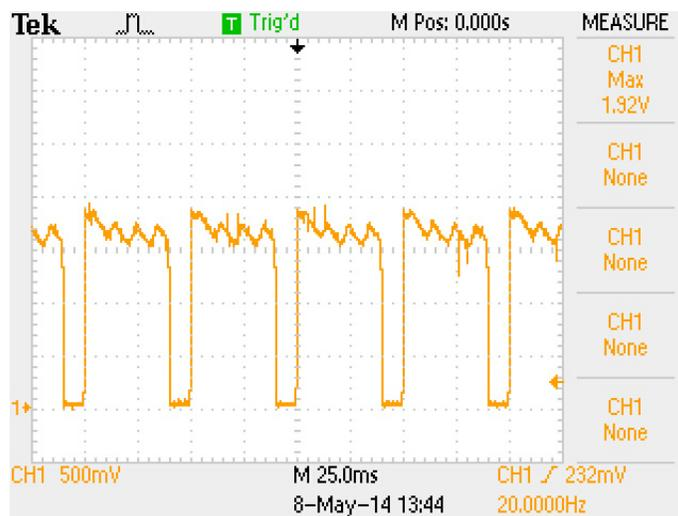

Figure 1: Voltage at IO representing the output current waveform: 220V / 80% / 20Hz
In order to measure the peak current of modulated outputs, an oscilloscope was used to measure the voltage drop across a resistor in series with the load. The existing EFU circuitry was used for this purpose and the voltage measurements were taken at pin 4 of the PIC microprocessor 16F877A (signal labelled IO). This signal is derived from a differential amplifier monitoring the voltage drop across a 0.05R/20W resistor in series with the load. The signal IO is amplified and gain adjusted (during initial board testing) such that the output voltage (V) is related to the load current (I) by $V = 0.2I + 0.1$. The ability to measure the peak voltage accurately (and hence current) was improved by using a digital storage scope with automatic readout of the maximum signal level. This was further enhanced by using 64x signal averaging. Examples of the waveforms (without averaging) are shown in figures 1 to 8.